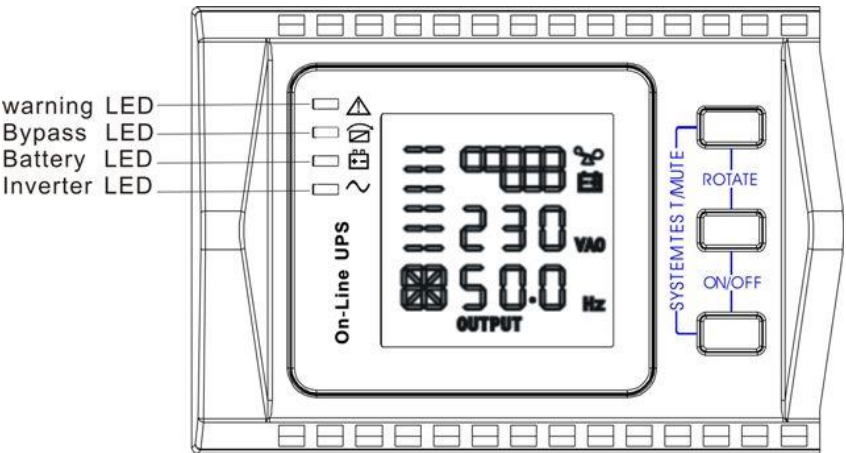

Figure16. Control Cover
1. Install the base, then place the RT UPS on the base one by one as Fig.16 shows.